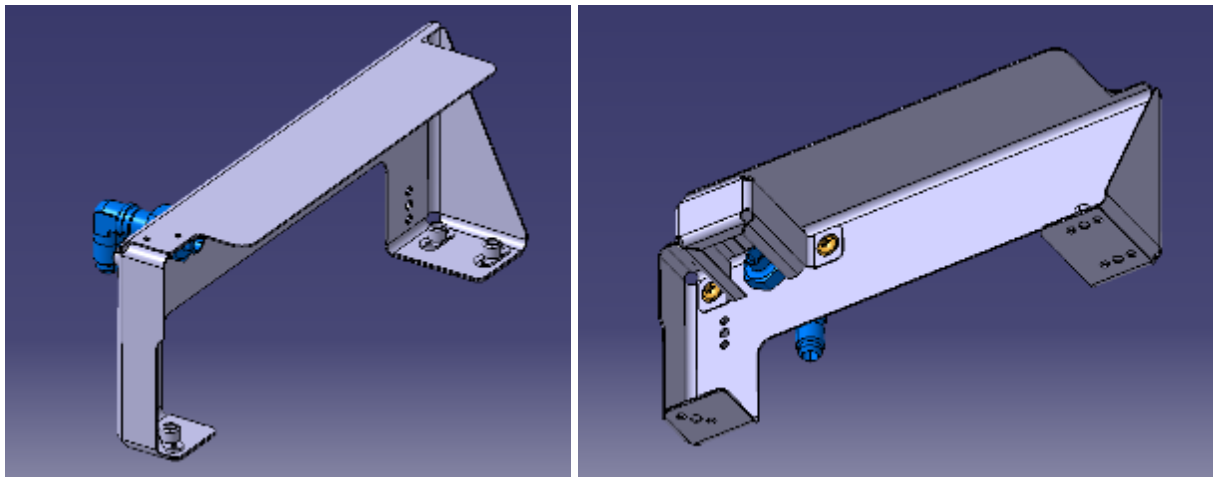

Figure 8 – Battery Vent Installation
11. Install the elbow fitting (Item 68) using two nuts (Item 69) as shown in Figure 8.
12. Install the battery vent housing (Item 61) using two screws (Item 67) as shown in Figure 8.